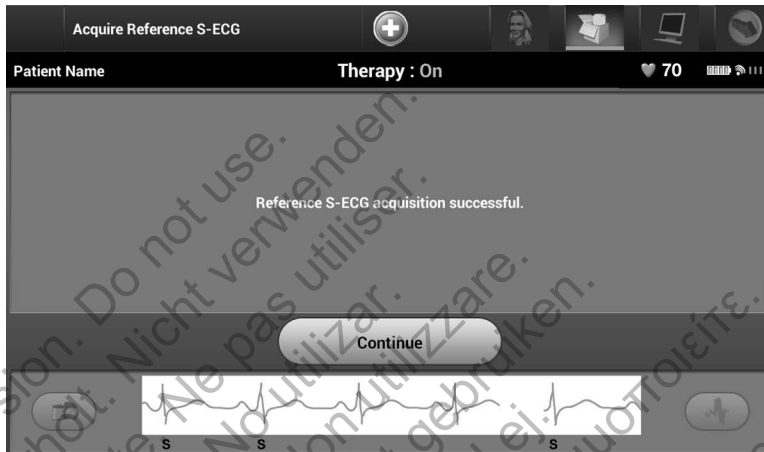

Figure 53: Captured Reference S-ECG confirmation
2. The Acquire Reference S-ECG process is automatically enabled during the Manual Setup Process. Select the Continue button to acquire a reference S-ECG. A confirmation screen will appear when the captured reference S-ECG is acquired (Figure 53).